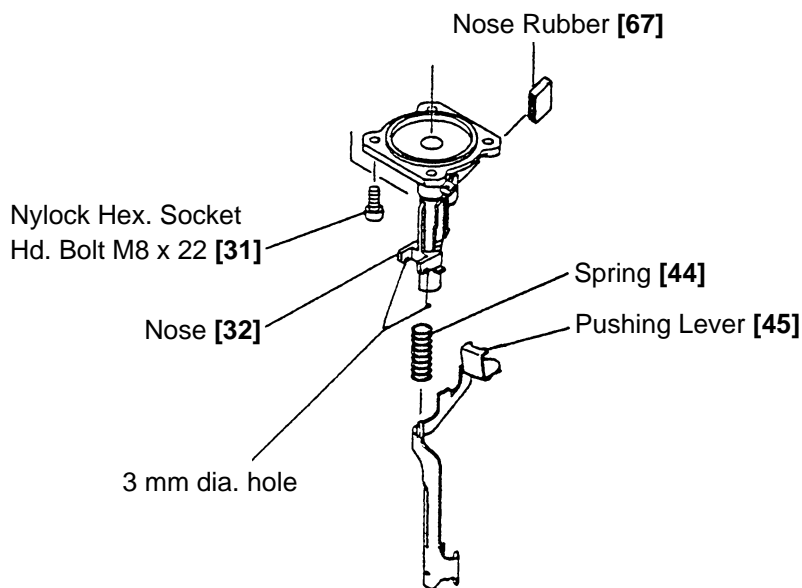

Fig. 19
(1) Nose [32], Pushing Lever [45] and the related parts (See Fig. 19.)